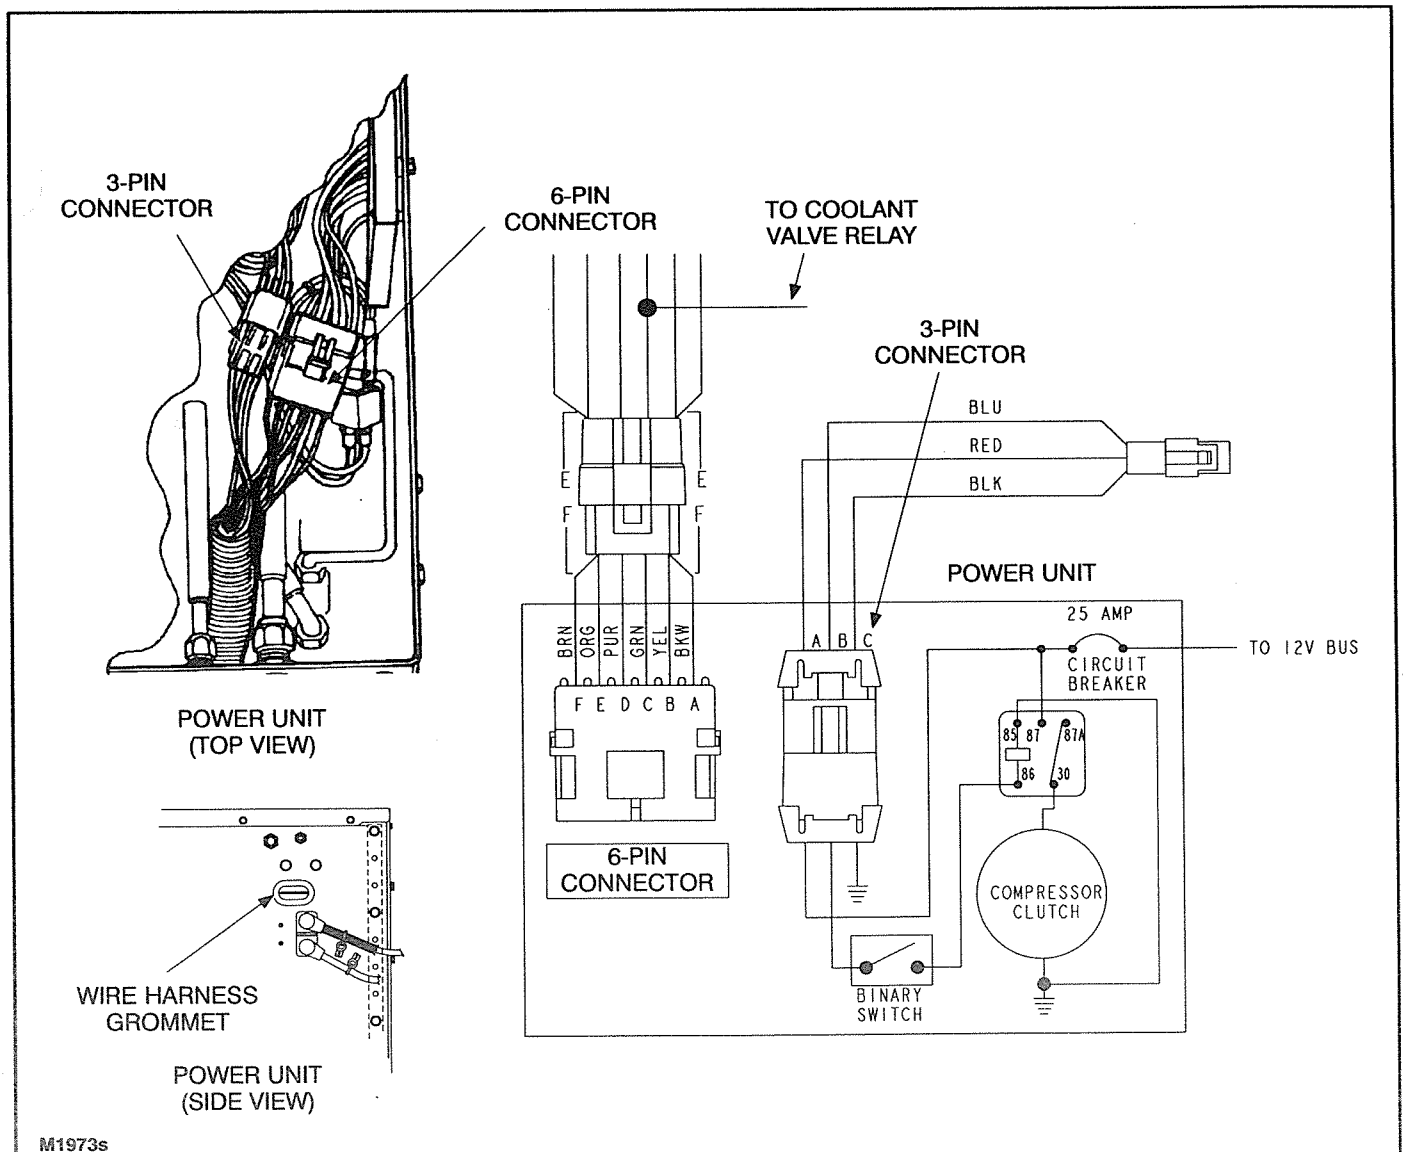

FIGURE 11-6. POWER UNIT WIRING
1. Route the end of the harness with the bare pin connectors through the grommet in the side panel of the power unit (Figure 11-6).
2. Insert six harness leads into the back of the six-pin connector housing. Wire the connector according to Figure 11-6.
3. Remove rubber plugs from the connector, if provided. Insert remaining three harness leads into the back of the three-pin connector housing. Wire according to Figure 11-6.